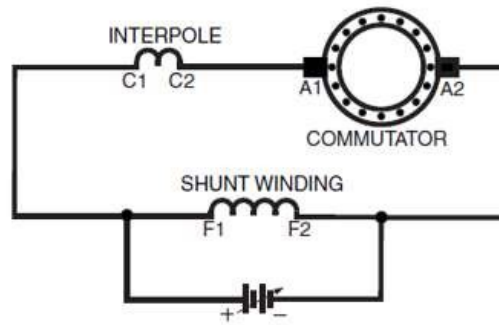

Figure 1: A self-excited DC shunt motor diagram
4. Wire the motor windings together in the self-excited configuration as shown in Figure 1.